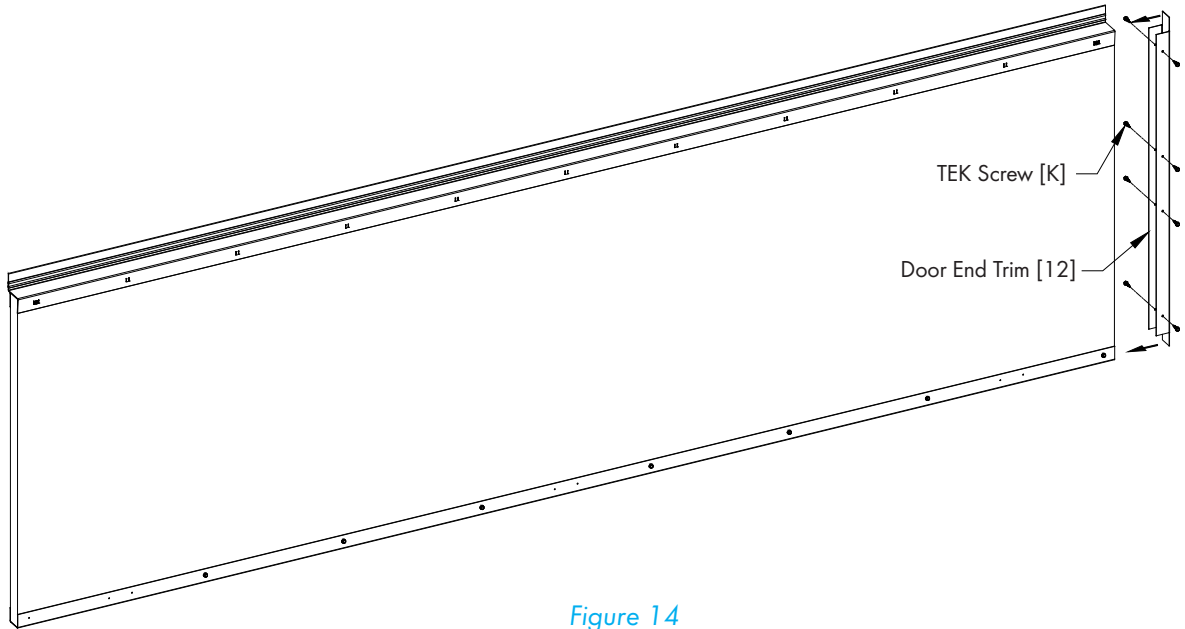

Figure 14
Slide a Door End Trim [12] over the Left Door and secure in place with (8) TEK Screws [K]. See Figure 14.